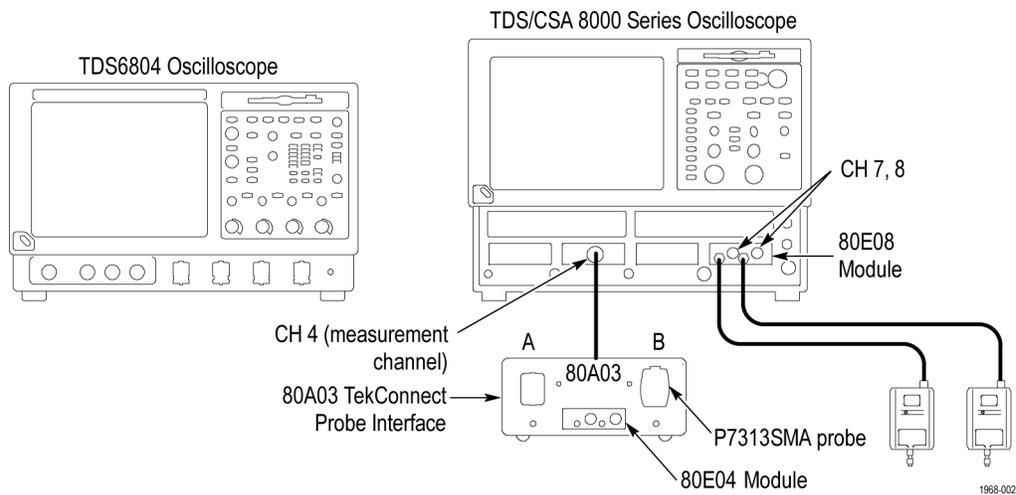

Figure 22: Preliminary test setup
1. Connect the 80A03 TekConnect probe interface to channels 3 and 4 of the TDS8000 oscilloscope. (See Figure 22.)